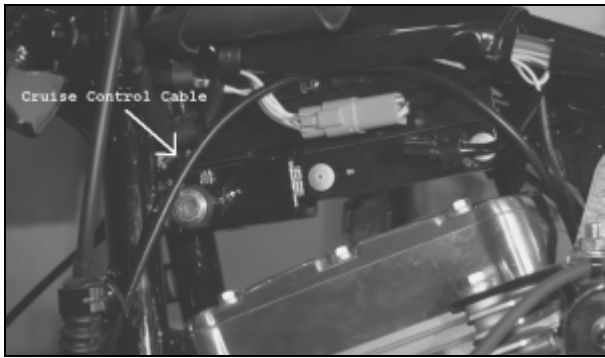

Figure 7. Cruise Control Cable Left Side
13. See Figure 7. Feed cruise control cable through space between clutch cable and frame (above where clutch cable adjustment attaches to frame), and then under left side of the fuel tank rubber trim and toward right side of bike between front cylinder head and top engine mount.